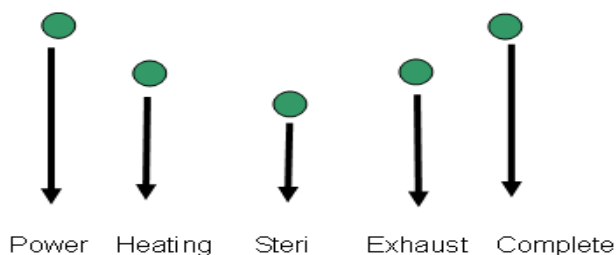

Figure 19
G.4 Press the START Button  and the sterilizer will automatically run through the selected program. The current progress of the sterilization cycle is indicated by the illuminated LED on the Process Status Indicator. (Figure 19)